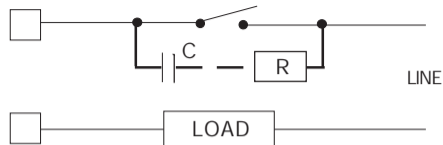

Fig. 9 EXTERNAL SWITCH IN SERIES WITH THE INTERNAL CONTACT
The same problem may occur when a switch is used in series with the internal contacts as shown in Fig. 9.
In this case it is recommended to install an additional RC network across the external contact as show in Fig. 9. The value of capacitor (C) and resistor (R) are shown in the following table.